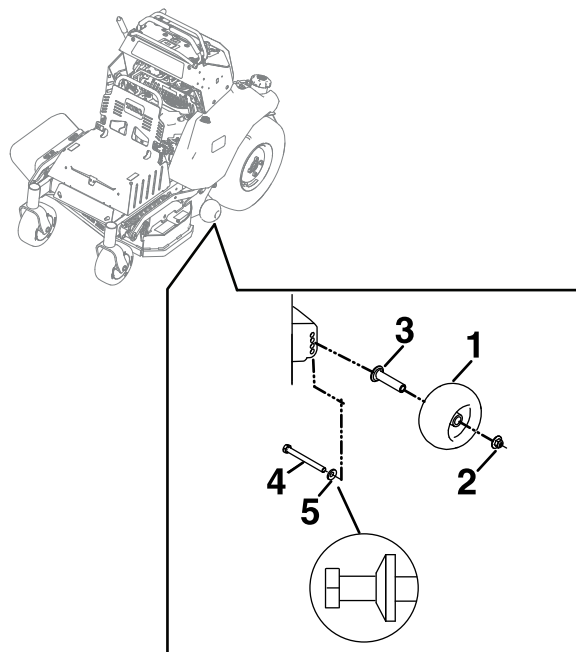

Figure 16
8. Torque the nyloc nut (3/8 inch) to 68 to 75 N·m (50 to 55 ft-lb) (Figure 16).